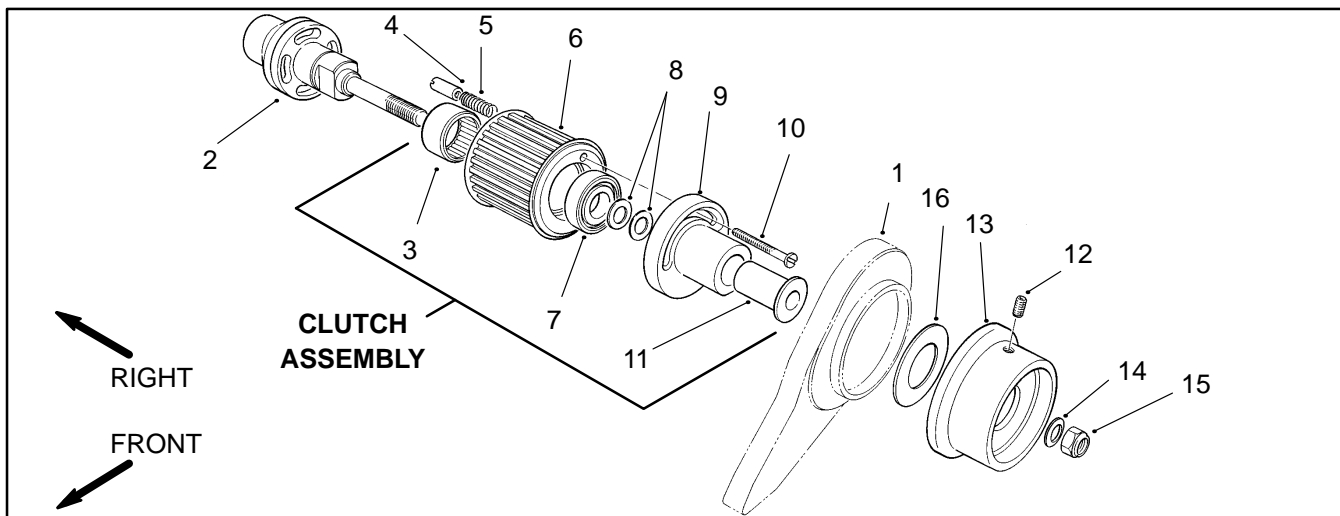

Figure 18
8. Loosen both set screws on the clutch knob. Remove the clutch knob and the poly washer behind it from the clutch assembly (Fig. 18).
B. Use an allen wrench to remove driven pulley from the shaft (53).
11. Remove lock nut and flat washer from the shaft of the clutch drive adapter. Pull clutch assembly off the shaft of the clutch drive adapter (Fig. 18).